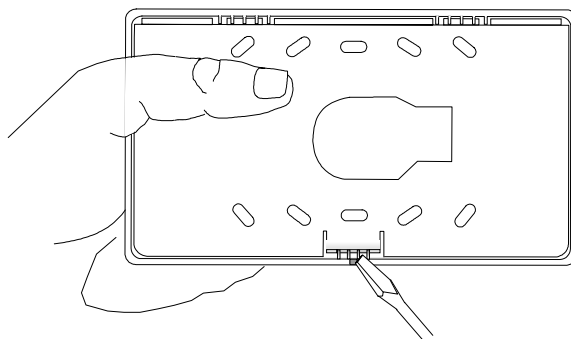

Figure 4-11 Mounting Plate Slot location.
1. Separate the top section from the rear mounting plate. Do this by inserting a small flat-blade screwdriver into the slot located on the bottom edge of the frame. (See Figure 4-11.) Push in, then lift up the top section.